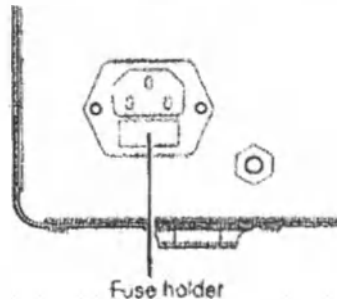

Fig. 20.
2. Remove the fuse holder with a direct movement and replace the fuses (see Fig. 20).